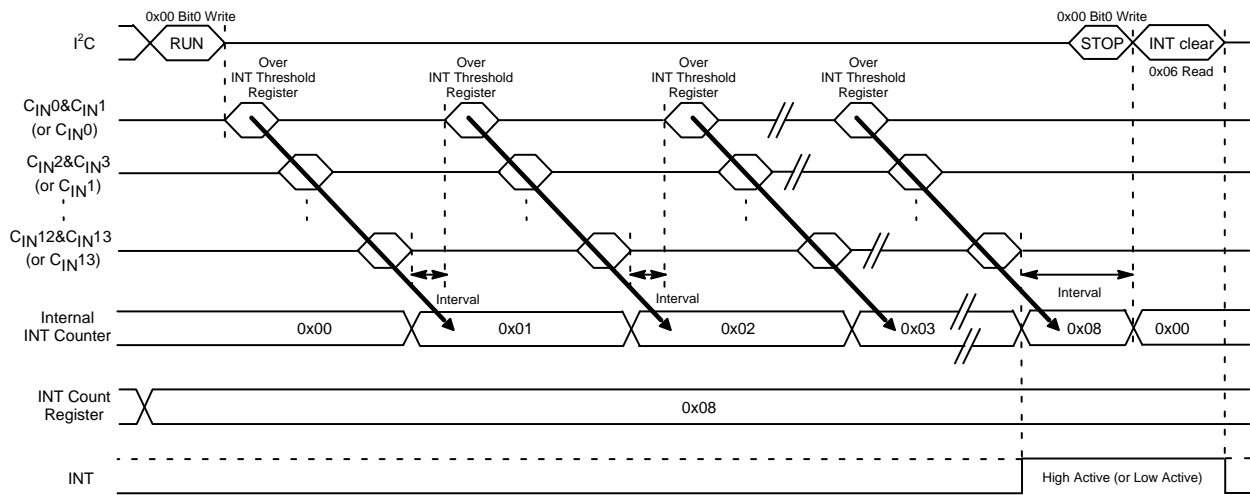

Figure 8. Operation Detection Mode Sequence
2. The 0x37 INT Count Register is used to specify how many consecutive operation times need to be detected to generate an interrupt. (In Figure 8, the setting is for 8 consecutive times.)
5. When the measurement results exceed the specified threshold value, the internal interrupt counter is incremented. (In Figure 8, it is assumed that the threshold value specified by the 0x36 (or 0x35) Differential (or Single) INT Threshold Register is exceeded.)